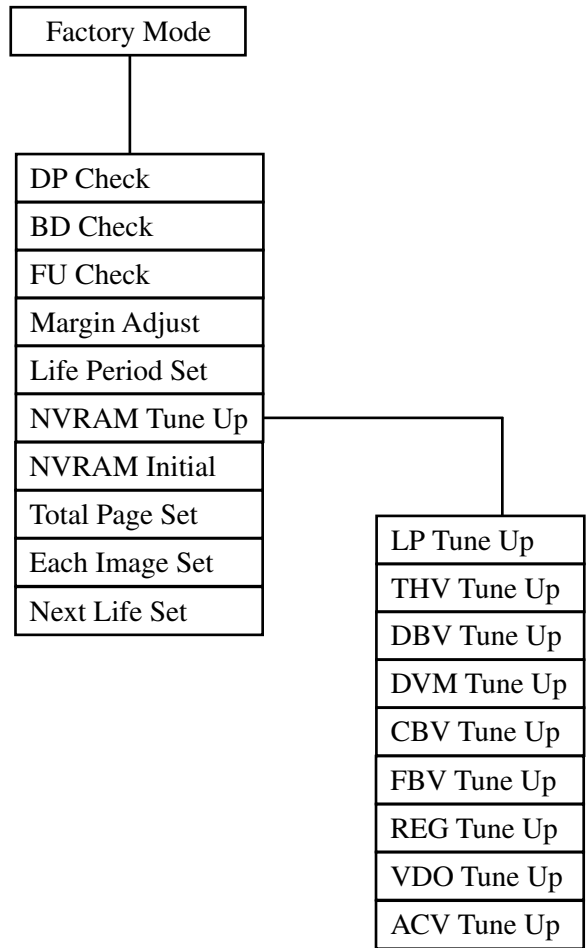

Fig. 6-2
(see Fig. 6-2).
2. By pressing the Scroll keys, Select key, and Media key, choose the mode necessary for maintenance from the tree shown in Fig. 6-2.